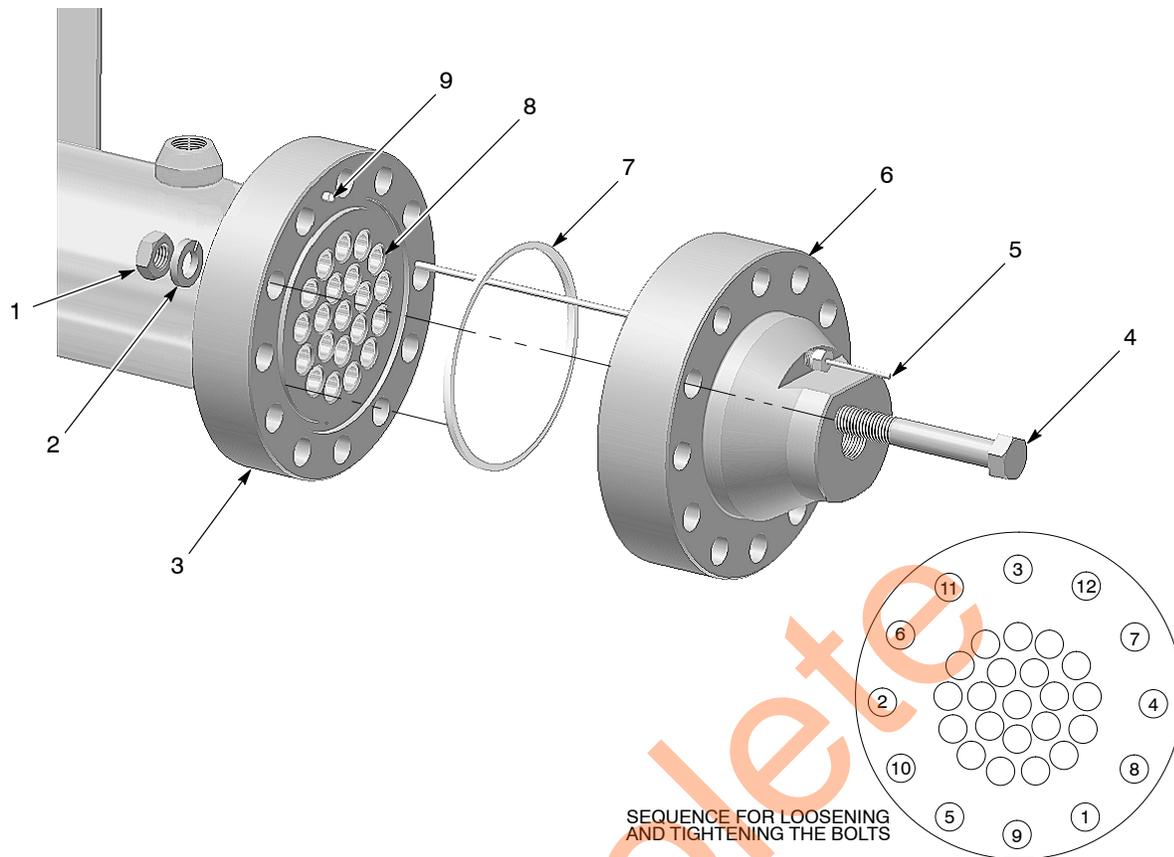

Figure 10 Heat Exchanger Disassembly
4. See Figure 10. Using the loosening sequence shown, remove the bolts (4), lock washers (2), and nuts (1) from the head assembly (6). Remove the head assembly.
5. Remove and discard the O-ring (7).
1. See Figure 10. Clean the head assembly (6), tube sheet head (3), and O-ring groove with a putty knife, clean rags, and a compatible solvent. Be careful not to damage the machined surfaces or O-ring grooves.
2. Push the 1/2-in. steel rod into each tube (8) to remove coating material.
See Figure 10.